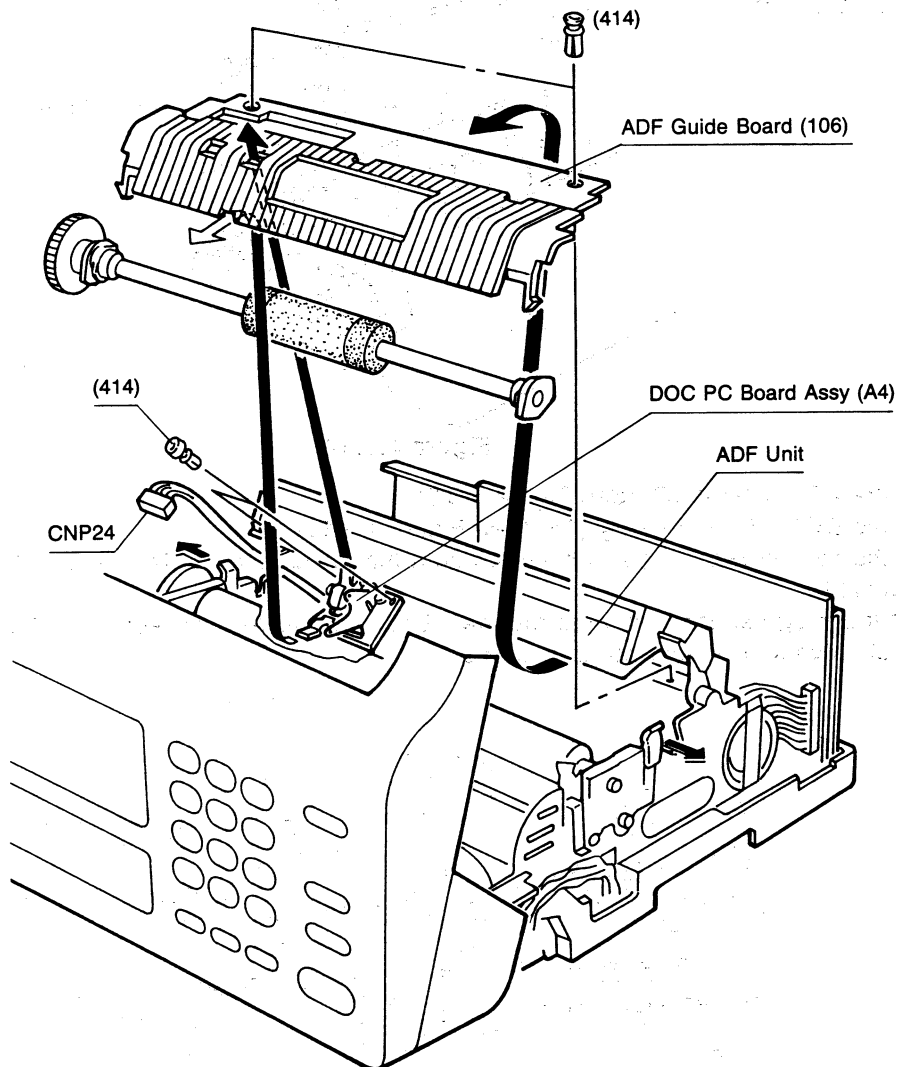

Figure 4.3.11
- (6) Remove the DOC PC board assy (A4) (See Figure 4.3.11).
- (7) Remove the two screws (407) which secure both the image sensor plate spring (122) and ADF sensor set board (112).
- (8) Take out the image sensor unit from the main body and unplug connectors CNP5 and CNP6.
- (9) To reinstall, reverse the removal procedures.